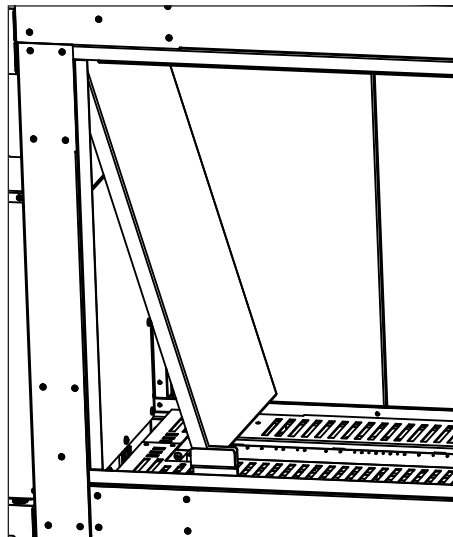

Figure 12: Left Liner Removal
4. Remove the left liner from the firebox by swinging out the bottom out first then removing (Figure 12).